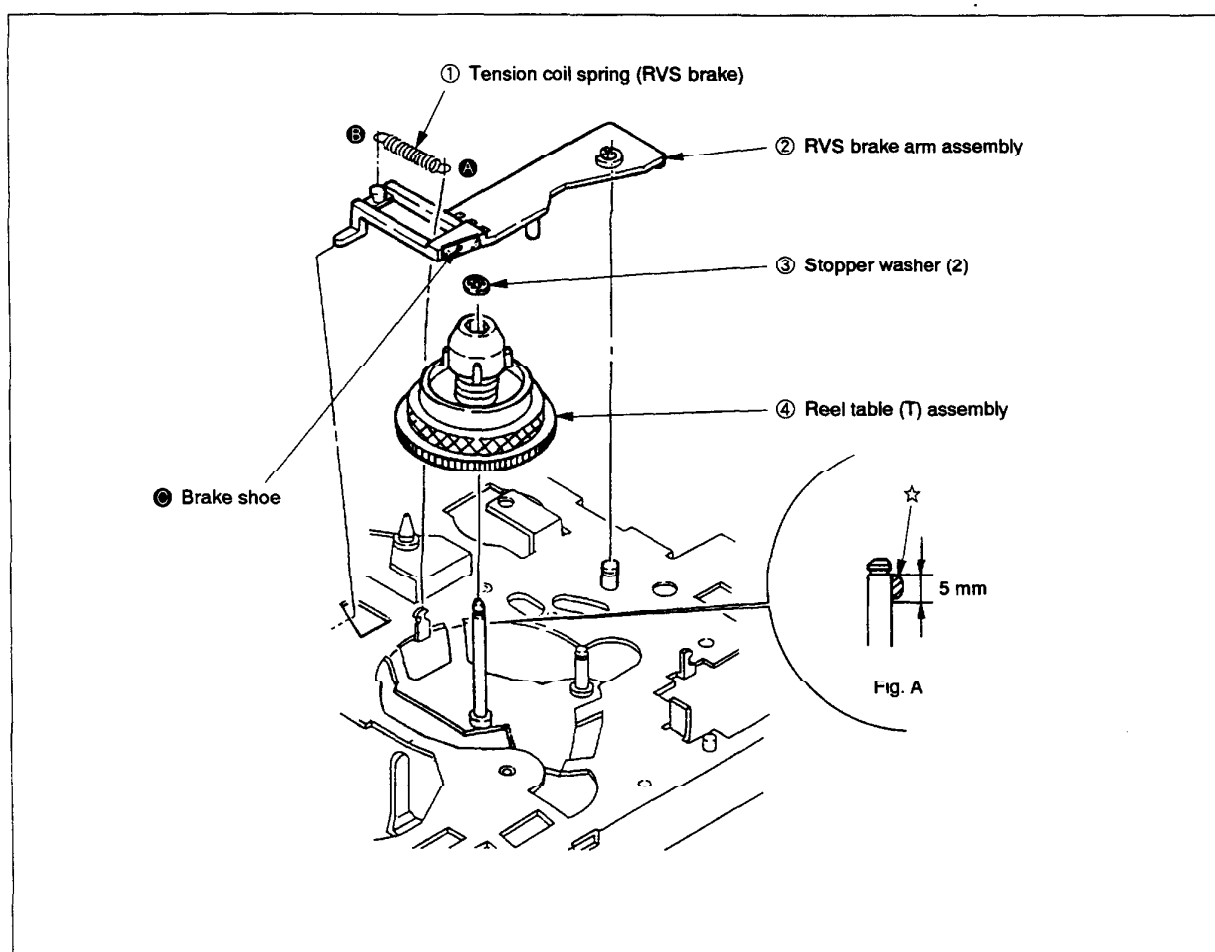

Fig. 3-14
3-12. RVS BRAKE ARM ASSEMBLY, REEL TABLE (T) ASSEMBLY (Fig. 3-14)
- 3) Remove tension coil spring ① in the order A to B.
- 4) Remove RVS brake arm assembly ②.
- 5) Remove stopper washer (2) ③ to pull out reel table (T) assembly ④.